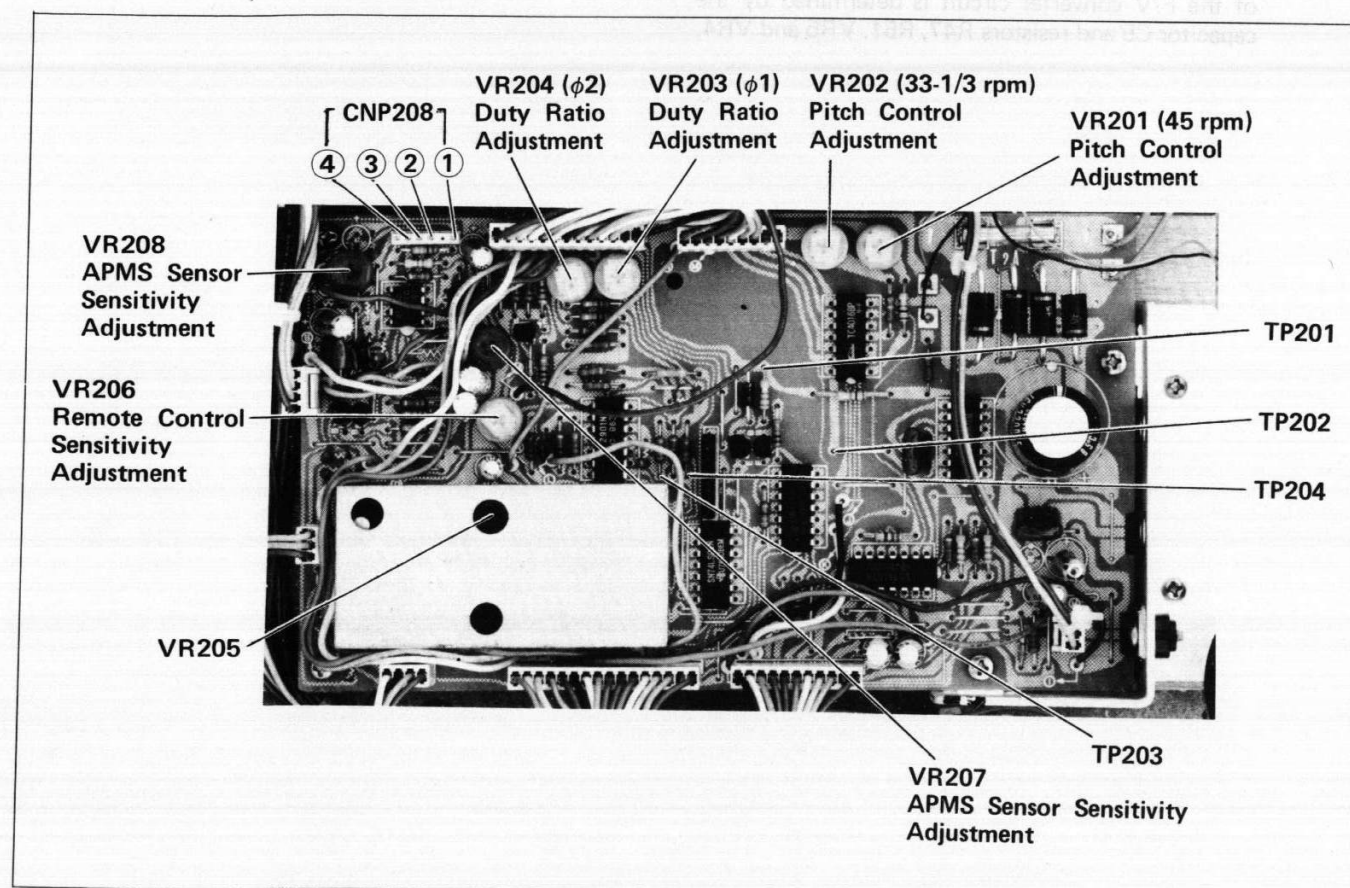

Figure 29-2 ALIGNMENT POINTS OF INTERFACE CIRCUIT
- (1) TP201 12 ± 1 V
(2) TP202 5 ± 0.25 V } Refer to Figure 29-2.
9. Pitch Control (Fine Speed) Adjustment (Refer to Figure 29-2)
10-1. Duty ratio adjustment (Refer to Figure 29-2)
(Adjusting points and adjusting connection diagram are as shown in Figs. 29-2 and 33-3.)
11. Remote Control Sensitivity Adjustment (Refer to Figure 29-2)